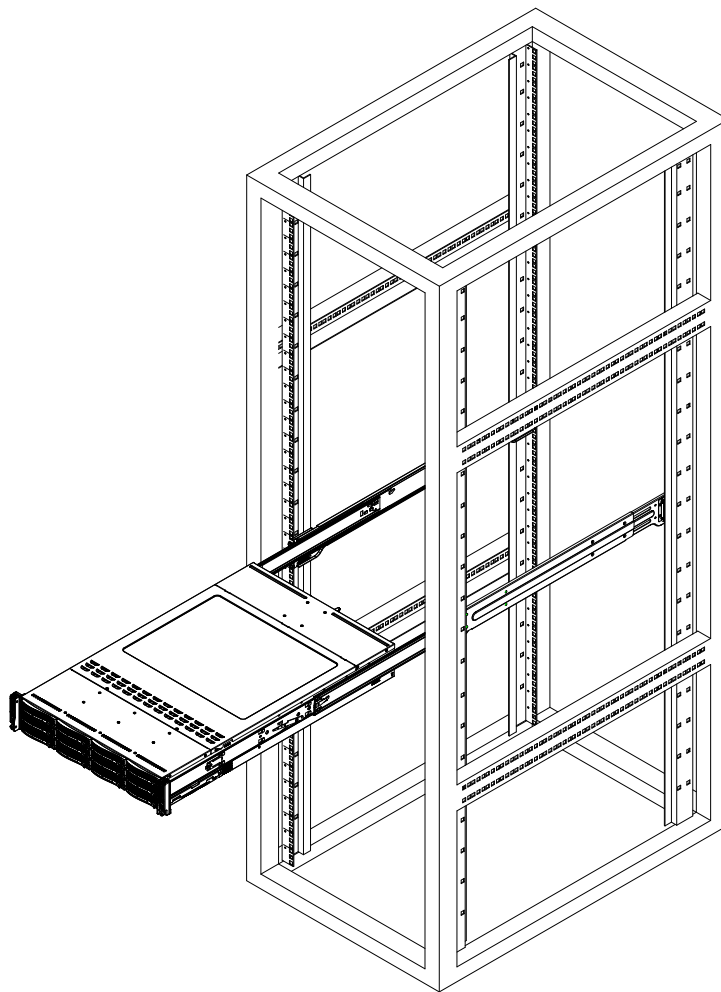

Figure 2-5. Installing the Server into a Telco Rack
3. Finish by sliding the chassis into the rack and tightening the brackets to the rack. See Figure 2-5.